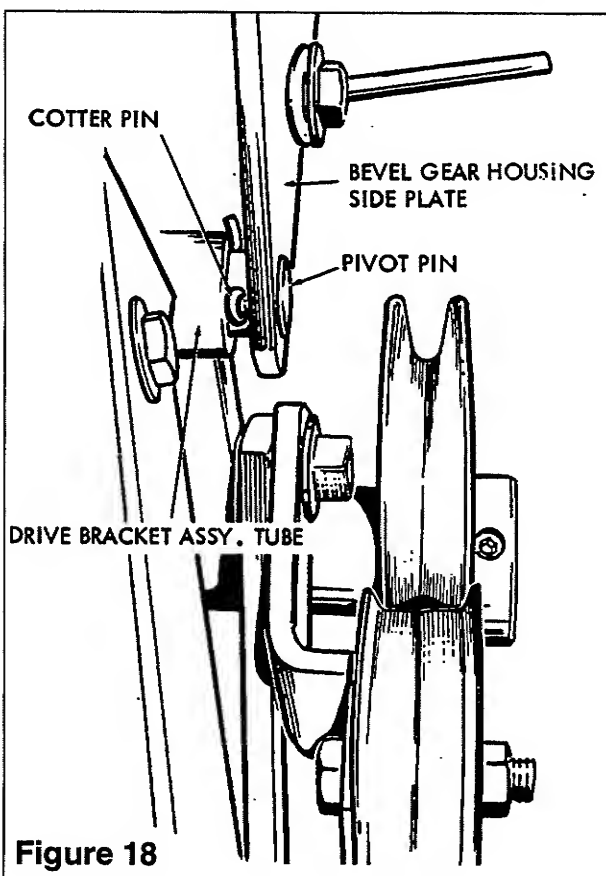

Figure 18
3. Push pivot pin through the holes in bracket and tube until the position of cotter pin hole in pivot pin is as shown in Figure 18. Secure in position with cotter pin furnished.